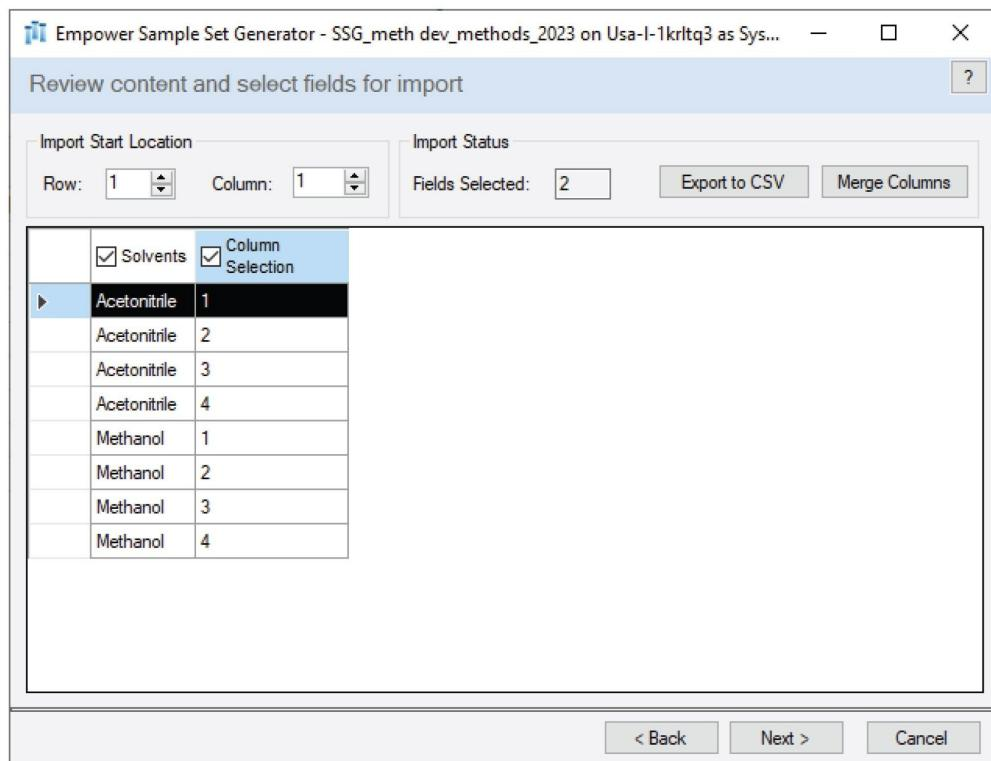

Figure 1. Creation of chromatographic methods with Empower SSG. Imported experimental design for screening with solvents and columns.
- An experimental design was imported to the Empower SSG by loading a comma separated value (CSV) file with solvents and columns (Figure 1)